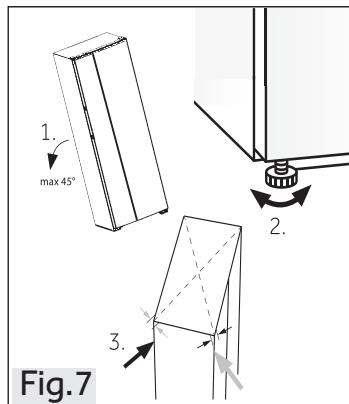

Fig.7
1. Tip the appliance slightly backwards (Fig.7).